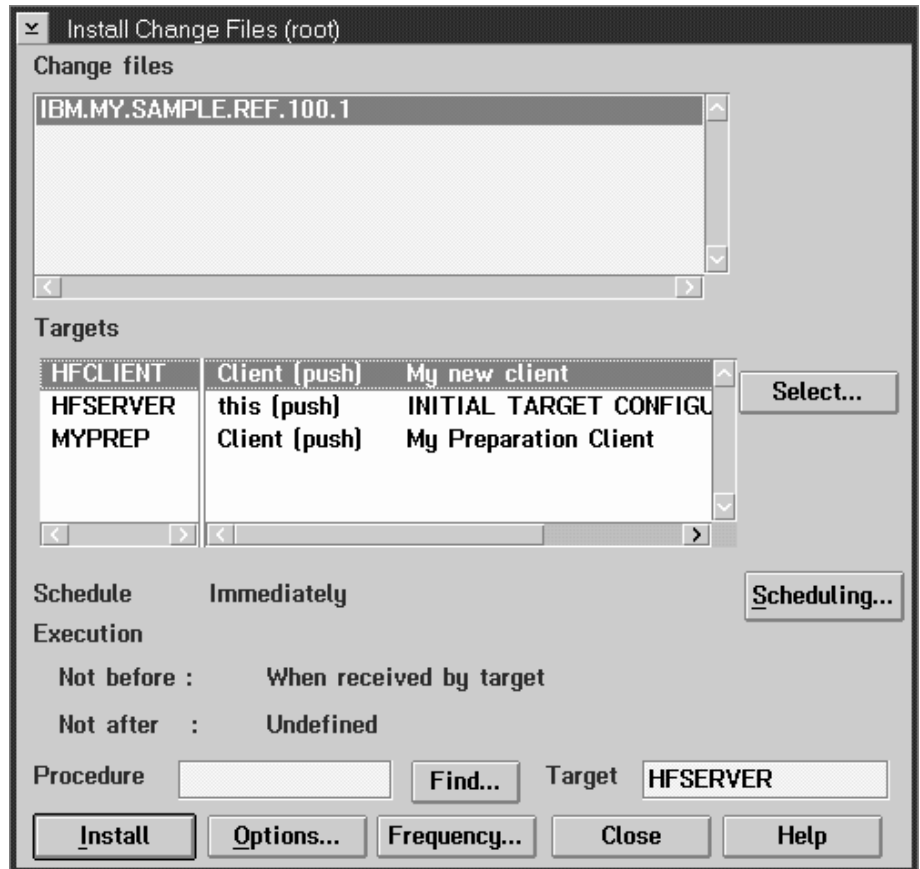

Figure 70. Install Change Files window
- 5 Select **Install...** from the **Selected** menu choice. The Install Change Files window is displayed, as shown in Figure 70.
- 10 Click on the **OK** push button. The Install Change Files window is displayed, as shown in Figure 70 on page 163.